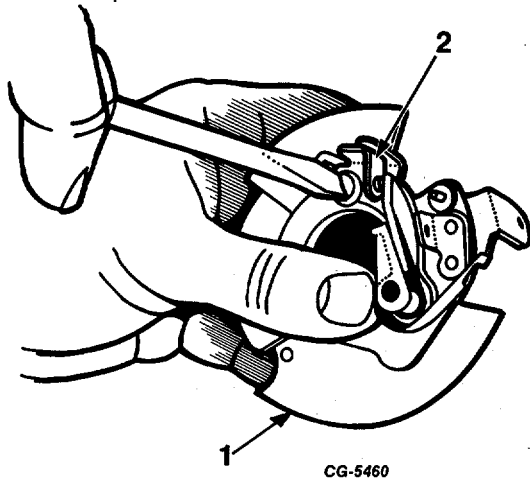

Fig. 13 Removing Contact Point Set
- c. Remove contact point set mounting screw (Figure 13) and lift contact point set from advance plate.